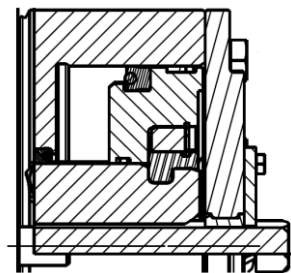
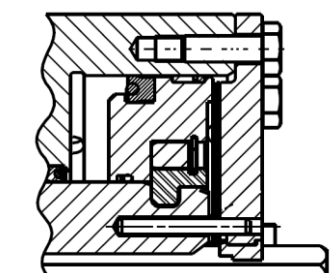

Fig 3.
Fig 4.
5.2 Follow further re-assembly instructions as under 3.9 and 3.10.3 and fit shims as required up to a maximum of 4mm with the end cover (43) step outward (See Fig 3) or 6mm with the cover step inward (See Fig 4).